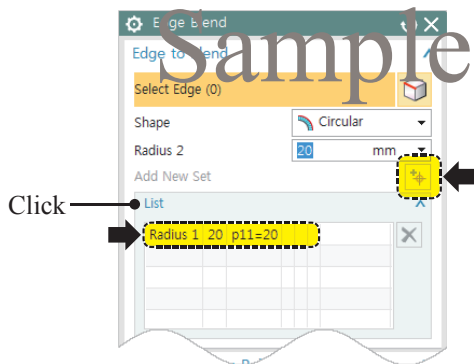

Fig 6-17 Edge Blend Defined
7. Expand the **List** area of the dialog box by clicking the title as shown in Fig 6-17.
8. Click the **Add New Set** icon as specified by the upper arrow in Fig 6-17.